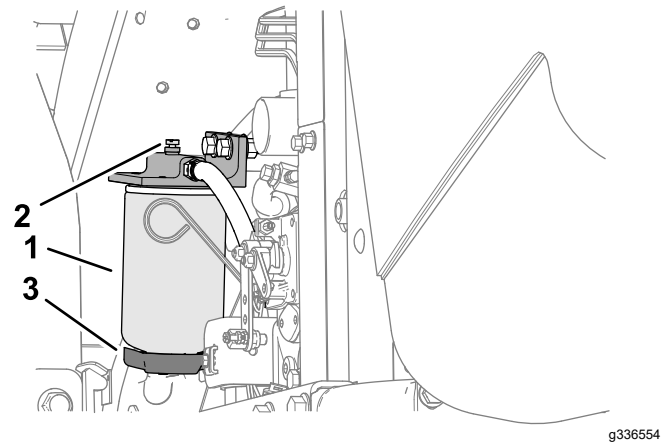

Figure 76
4. Loosen the drain valve on the bottom of the filter canister (Figure 76).
3. Clean the area where the filter canister mounts (Figure 76).